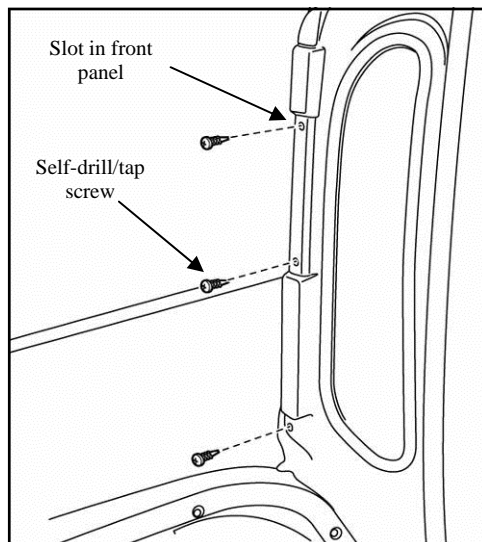

Figure 9: Fasten Front Panel to Windshield Support Tube
2.5. Using the three (3) slots as guides, fasten the front panel to the windshield support using the self-drill/tap Phillips head screws that were provided (Figure 9). (NOTE: fasten in natural state making sure window is tightly secured. **Do not** push front edge of front panel forward. Front window may become dislodged as a result. Due to vehicle variations the bottom slot may not line up with the tube. This screw may be left out.)